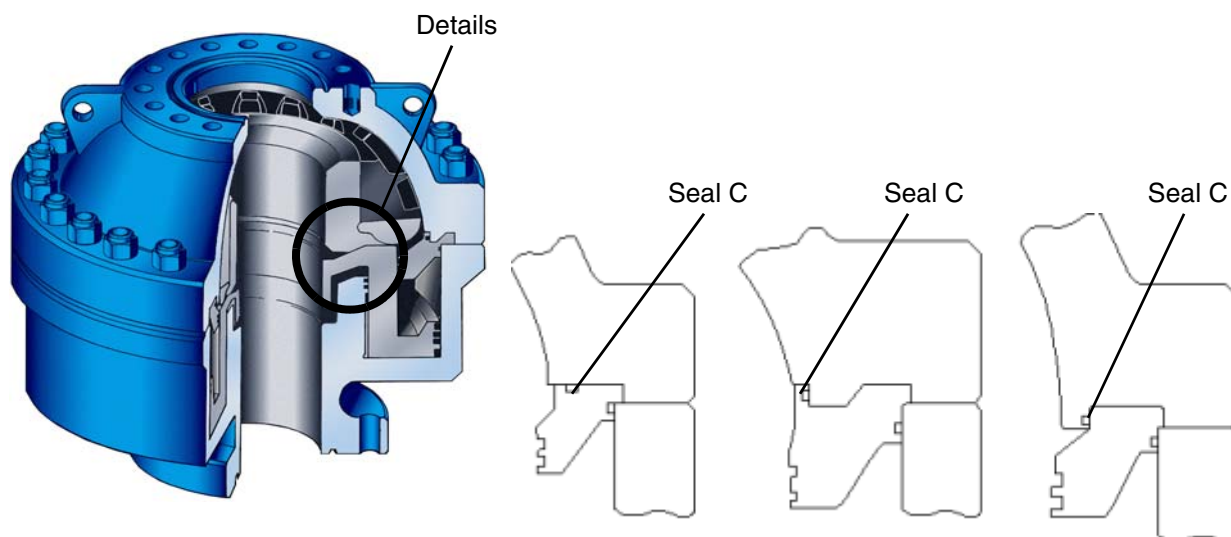

Figure 4-22. Bolted-Cover Upper Housing and Adapter Ring Configurations
8. Replace seals #5 (8), C (9), B (11), and #4 (12) on the adapter ring (10), if damaged.
In some models, seal C (9) is mounted in the upper housing (see Figure 4-22).
6. Replace seals #5 (8), C (9), B (11), and #4 (13) on the adapter ring (10), if damaged.
In some models, seal C (9) is mounted in the upper housing (see Figure 4-22 on page 4-26).